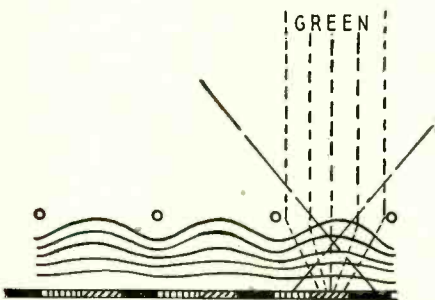

Fig. 2—Lines of equal potential make a sine-wave type pattern that flattens out as the screen is approached.
bends as well as accelerates the electron beams. The lines of equal potential are indicated in Fig. 2. An electron tends to go in the direction of the highest potential—to cross the lines of equal potential at approximately a right angle. Thus, electrons that enter the grille region at a slight angle travel in a parabolic path toward the phosphor face.
*Direction selectivity* is the key of this tube's operation. As seen in Figs. 2 and 3, a beam coming straight down the tube will—in the section shown—be focused in a narrow strip in the middle of the vertical stripe halfway between the grid wires. A beam coming in from the left—represented by a single ray in Fig. 2—will, in trying to move in the direction of greatest increase in voltage, be focused toward the right, and the one from the right toward the left. (Angles as well as sizes in Figs. 2 and 3 are exaggerated to illustrate the action more clearly.)